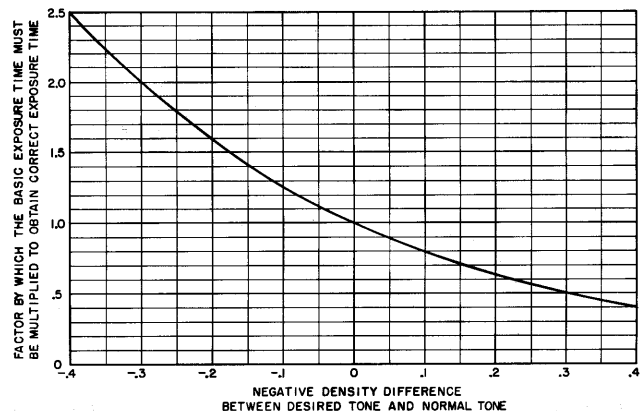

Fig. 8
5. Refer to figure 8 and determine the factor by which the basic printing time must be multiplied to obtain the correct printing time for the desired area.
ILLUSTRATION: It is desired to darken the background of a print. The negative density of the background is 0.7. The negative density of the desired tone area is 0.4. The difference is 0.3 and since the desired tone value is less than the normal tone (in this case the background), the difference should be —0.3. In Fig. 8 the value of —.3 corresponds to a factor of 2. This means the background should receive twice normal printing time.